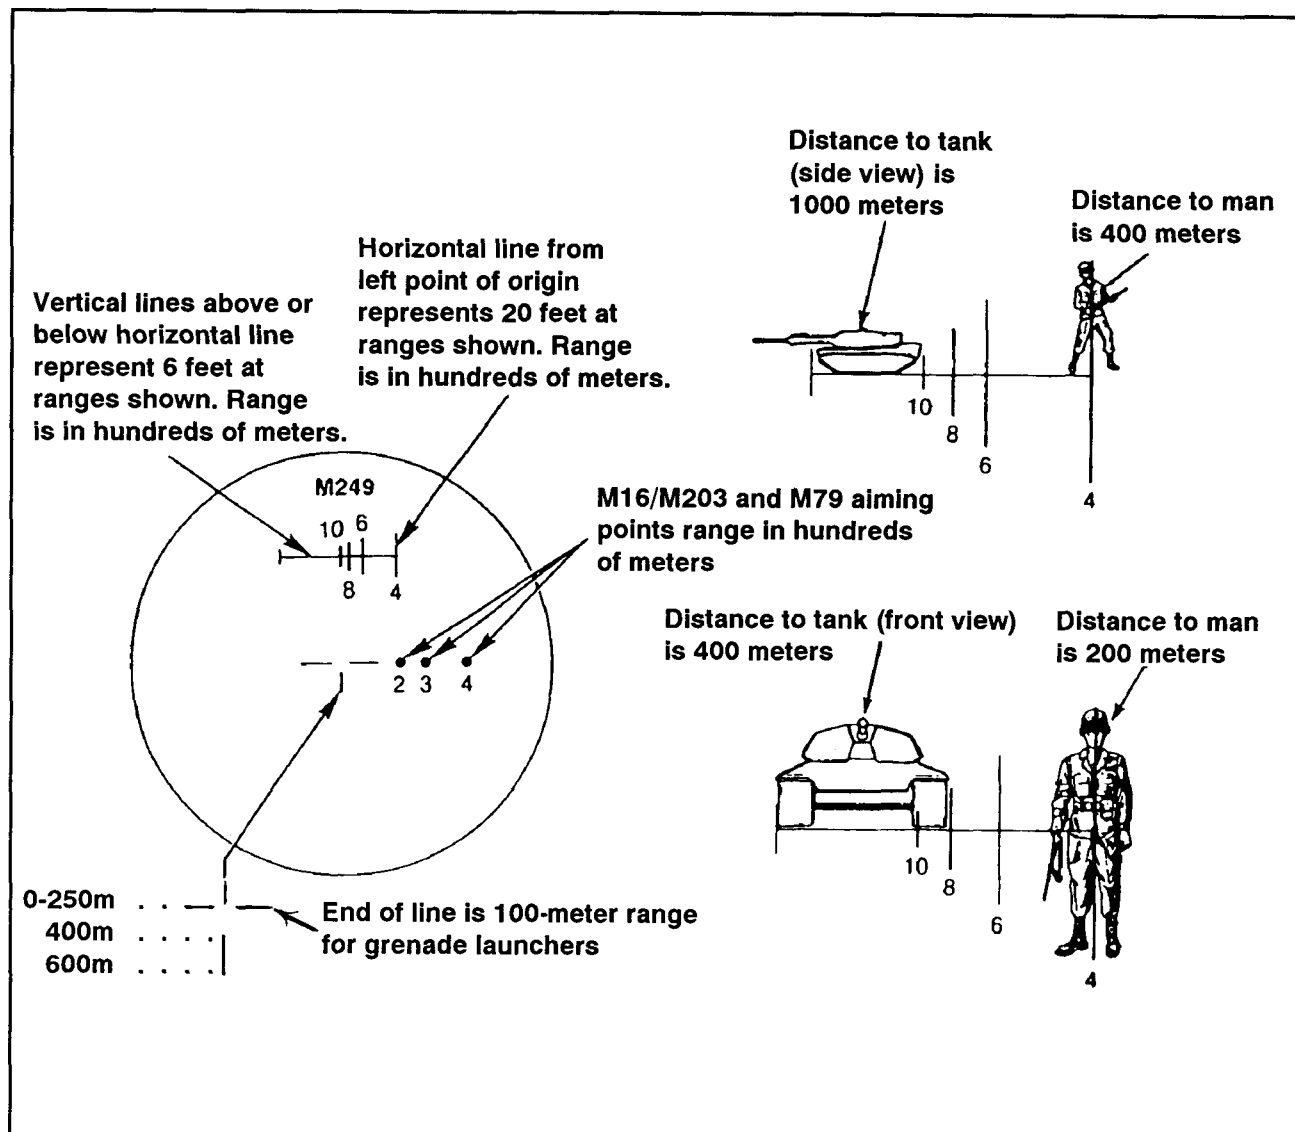

Figure 5-22. Centered reticle pattern.
c. **Centering the Reticle in the Field of View.** The automatic rifleman turns the device on and centers the reticle pattern in the field of view by using the azimuth and elevation actuators. To be accurate, he does this by rotating the elevation and azimuth actuators from one side to the other and from top to bottom, while counting the number of clicks. (The elevation actuator has the down direction marked DN with an arrow. This moves strike of the round. The azimuth actuator has the right direction marked with RT with an arrow. This also moves the strike of the round. He divides the number of clicks for each by two and moves the elevation and azimuth actuators that number of clicks. This manually centers the reticle in the field of view horizontally and vertically. This enables the automatic rifleman to reach an accurate boresight between the point of aim (reticle) and the center of the bore (Figure 5-22, page 5-46).